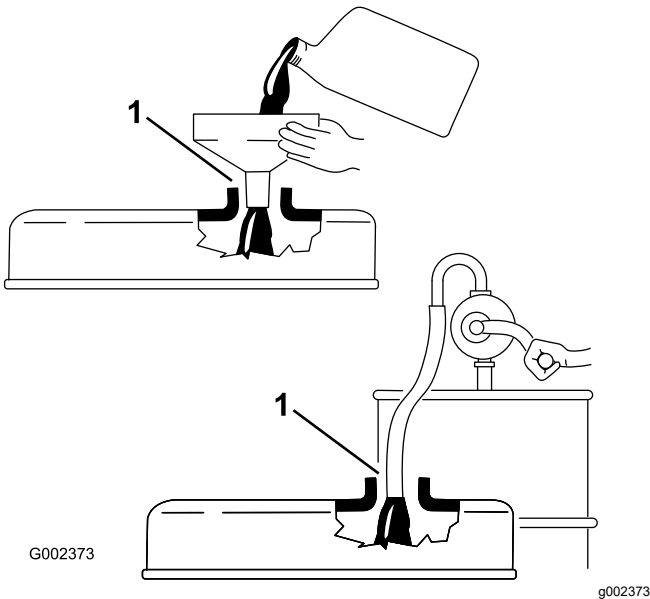

Figure 32
**Important:** Remove the dipstick while filling the engine with oil. When adding engine oil or filling oil, there *must be* clearance between the oil fill device and the oil fill hole in the valve cover as shown in Figure 32. This clearance is necessary to permit venting when filling, which prevents the oil from overrunning into the breather.